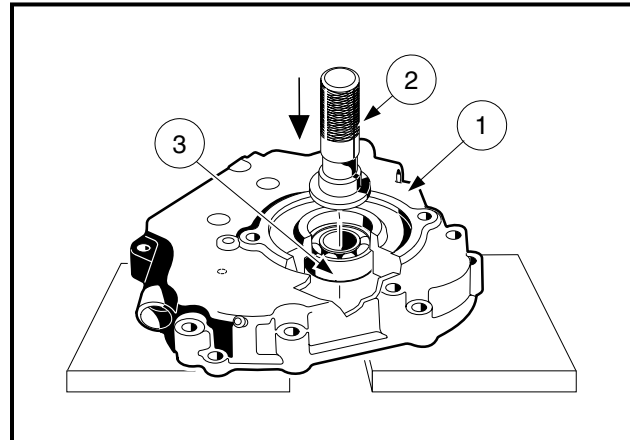

Figure 18-81 Ball Bearing Removal
2. Place the crankcase cover (1) on a bench with its outside up (gasket surface against bench) (**Figure 18-81, Page 18-38**).
3. Use a bearing driver (2) (part of Bearing Driver Kit, CCI P/N 1016416) to drive out the ball bearing (3).